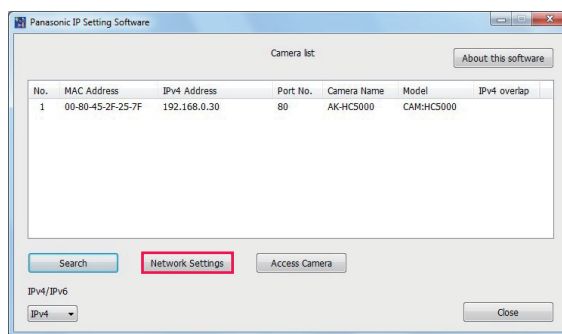

Fig. 2
**3** Click the MAC address/IPv4 address of the camera to configure, and then click the [Network settings] button. (Fig. 2)